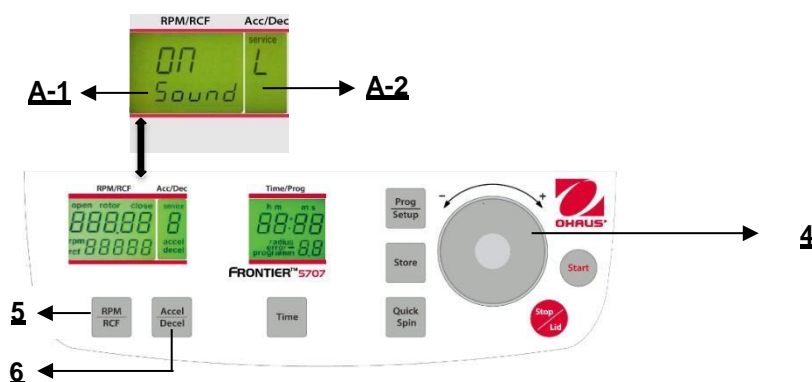

Figure. 29
Proceed as described under point 4.1.2 to enter this program mode and then press the key "**Accel/Decel**" (6). In the display "**Acc/Dec**" (A-2) the word "**Service**" flashes. Now select the letter "**L**" with the adjusting dial (4). As a result, the words "**On Sound**" appears in the display "**RPM/RCF**" (A-1). If you press the key "**RPM/RCF**" (5) now, the word "**On**" flashes and you can switch off the sound with the adjusting dial (4) (See figure 29).